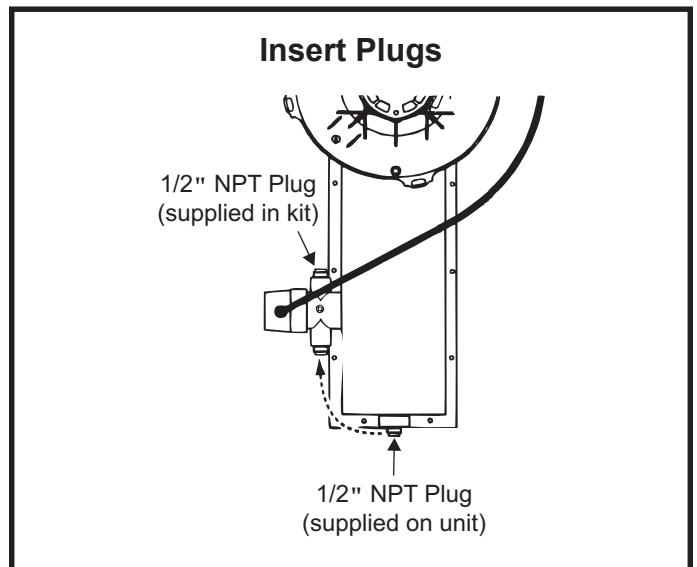

Figure 23
1. Relocate 1/2" NPT plug installed on flue pan to one side of the internal trap assembly (as shown in Figure 23).